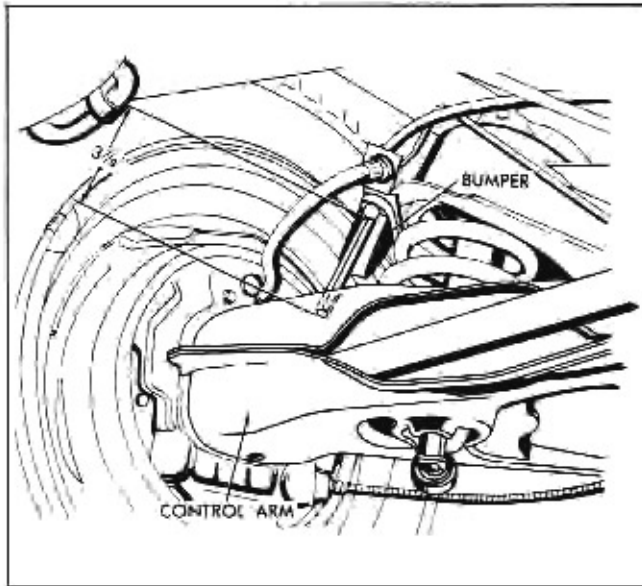

Fig. 3-11 Measuring Rear Suspension Curb Height
2. At rear, measure height at a point directly behind spring (Fig. 3-11).